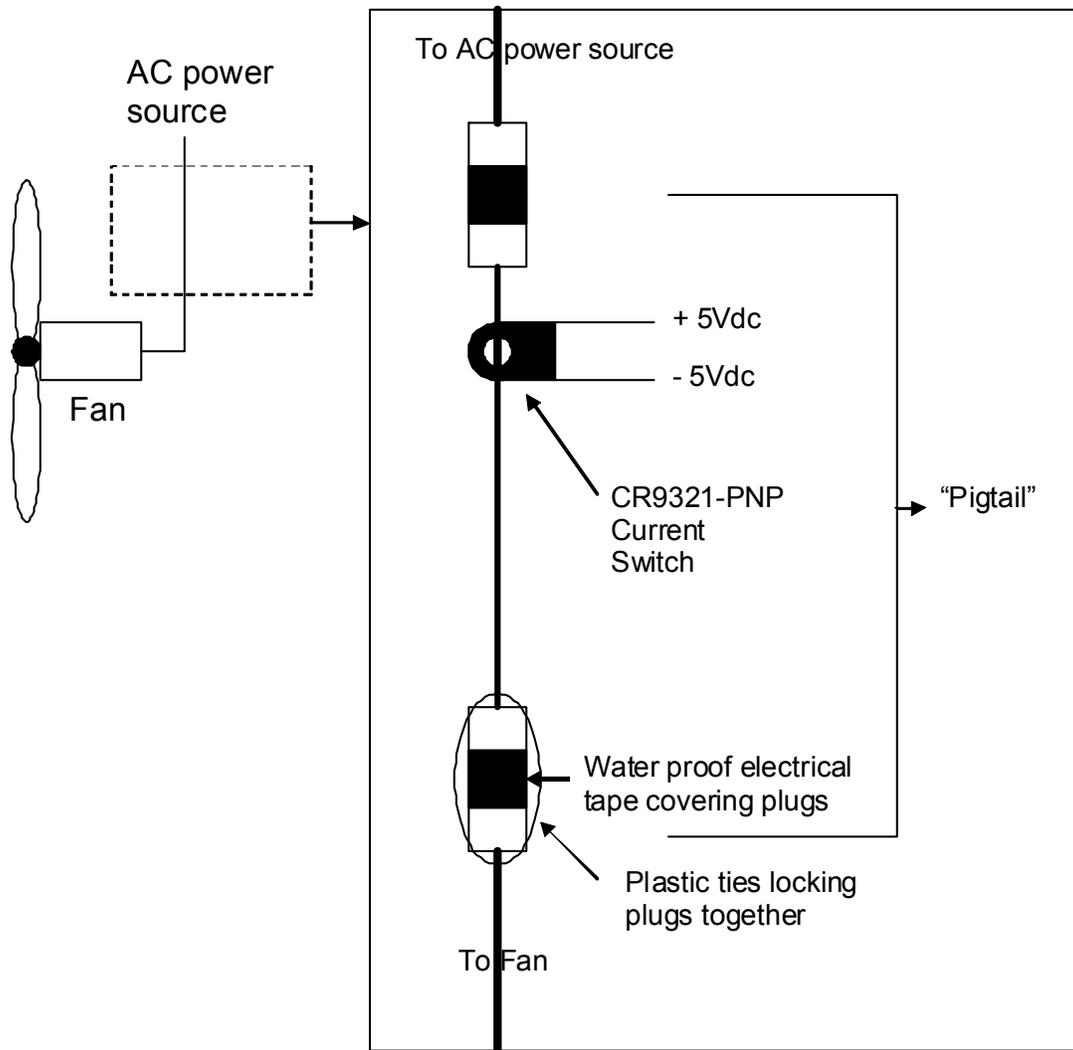

Figure R.1. CS application.
Figure R.1 shows the induction operated current switch (CS) (CR9321, CR Magnetics, St. Louis, MO) application in monitoring fan operational status. The CS is used in a “pigtail” which acts as a short extension cord. The “pigtail” is put in line between the fan motor and its AC power source. Water proof electrical tape is wrapped extensively around the plug connections to protect them from water and dust. The plugs are then “locked” together using multiple plastic ties as a deterrent to being separated. When AC current is present the CS returns a user defined amount of DC current to the MAEMU.